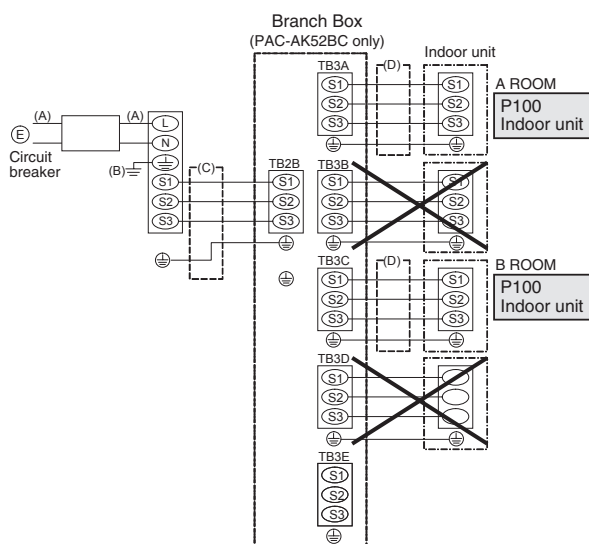

Fig. 9-6
9.3. Wiring to P100 indoor units (Fig. 9-6)